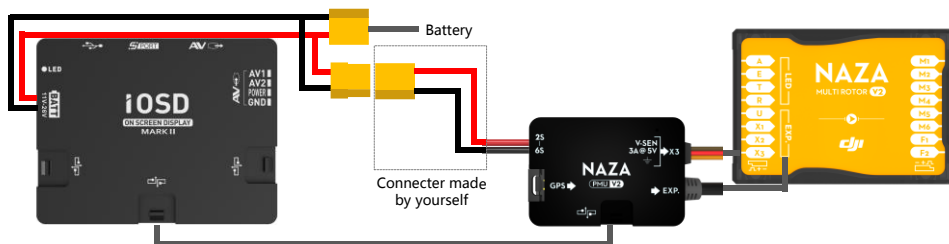

Fig.2 Connection between iOSD and NAZA-M V2
- (2) NAZA-M V2 (Fig.2): Make a connector to connect the PMU V2, iOSD and battery.